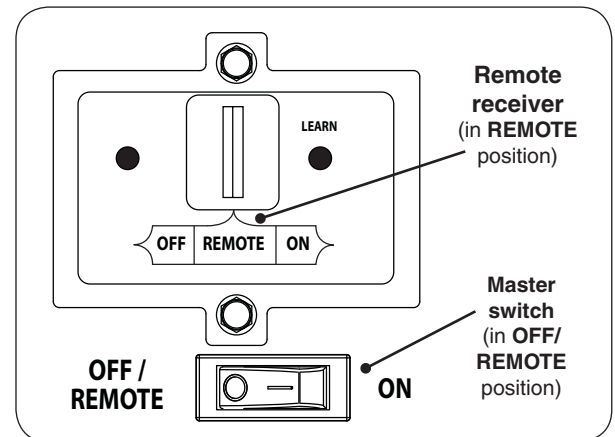

Fig. 39-1 Control panel detail
1. Ensure the master switch is in the **OFF/REMOTE** position (see Fig. 39-1).
2. Locate the 3-position switch on the remote receiver (see Fig. 39-1), and slide the switch to the **REMOTE** position.